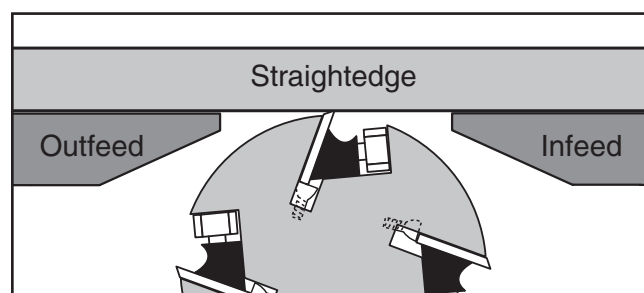

Figure 70. Infeed and outfeed tables aligned.
3. Place straightedge across infeed and outfeed tables, and rotate infeed table handwheel until infeed table is even with outfeed table (see **Figure 70**).